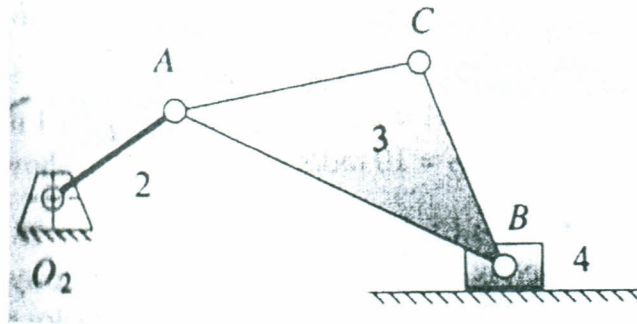

Figure 6
- Q.5A The linkage in Figure 6 has $O_2A = 20.3$, $AB = 49$, $AC = 33.8$ and offset = 9.7 mm. the crank angle in the position shown is 34.3° and angle $BAC = 38.6^\circ$. Find ω_3 , V_A , V_B and V_C for the position shown for $\omega_2 = 15$ rad/s in the direction shown using an analytical method.
- Q.6A The linkage in Figure 6 has $O_2A = 20.3$, $AB = 49$, $AC = 33.8$ and offset = 9.7 mm. the crank angle in the position shown is 34.3° and angle $BAC = 38.6^\circ$. Find ω_3 , V_A , V_B and V_C for the position shown for $\omega_2 = 15$ rad/s in the direction shown using velocity difference graphical method. 15